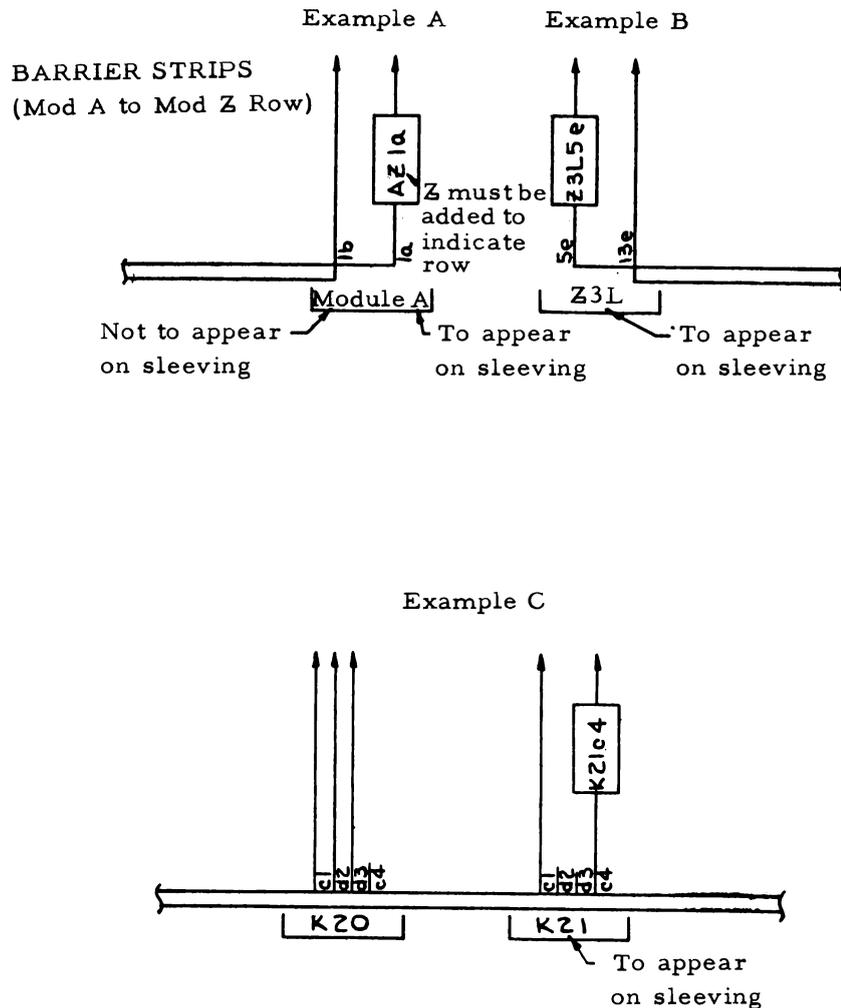

Figure 4-6. Wire Marker Identification
j. **Markers and Identification:** The identification (does not apply to jumpers) to be stamped on wire markers for all cable drawing numbers less than No. 3, 501,000 shall be the terminal identification found on the drawings adjacent to the cable trunk from which the terminal lead extends. (See Figure 4-6, examples A, B, and C.) The identification on cables and harnesses whose drawing numbers are 3, 501,000 or over shall be the proper circuit point.